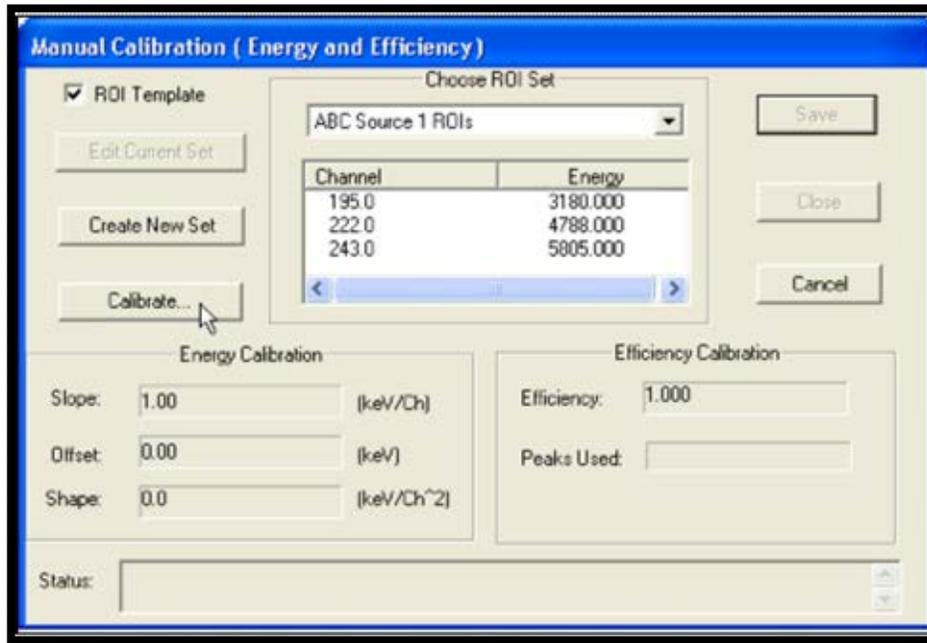
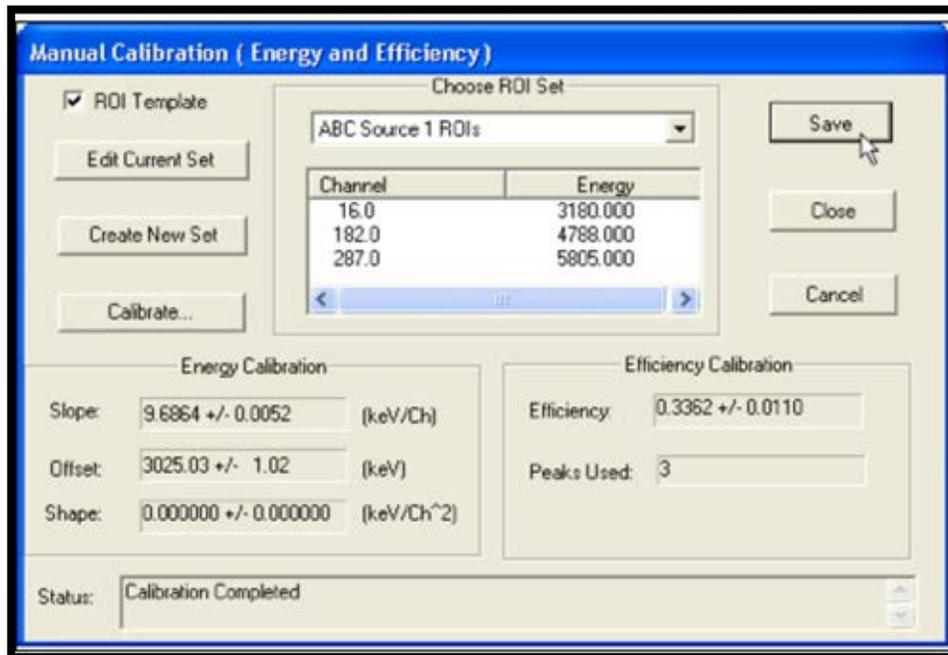

Figure 163. Manual Calibration Dialog
Figure 164. Calibration Complete
- 15) In the calibration dialog, click **Calibrate** (Figure 163). AlphaVision will calculate and display the efficiency and energy calibration factors, including a **Status** note at the bottom of the calibration dialog (which, in Figure 164, reads **Calibration completed**). Always check this status line when clicking **Calibrate**. In addition, monitor the AlphaVision Event Window for error messages pertaining to this calibration.